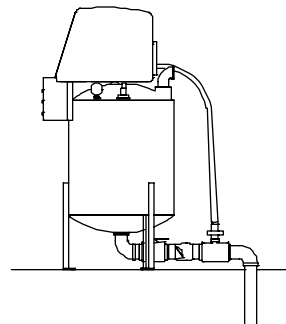

fig. 8 Positive Head Vacuum Exhaust
- Plan Vacuum Exhaust Plumbing fig 6 - When using a vacuum air pump to pump sewage the vacuum exhaust is very unpleasant. In order to direct the vacuum exhaust into the sewer line the pump unit is equipped at the factory with fittings that will direct the vacuum exhaust air into the discharge line. See page 6 for details. **For negative** head installations the ½" exhaust air line and ½" check valve are connected to the 2" X ½" tee right at the tank discharge just after the 2" check valve. fig 7 **For positive** head installations the exhaust air line must be extended parallel to the discharge line and is connected to the ½" check valve and the 2" X ½" tee at a point where the discharge line will gravity drain.fig 8